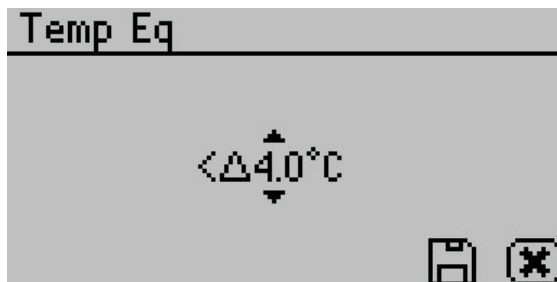

Figure 29 Temp Eq
- **Temp Eq.** Select to set the acceptable temperature difference between the AQUALAB TDL block and the sample before starting a water activity measurement (Figure 29).